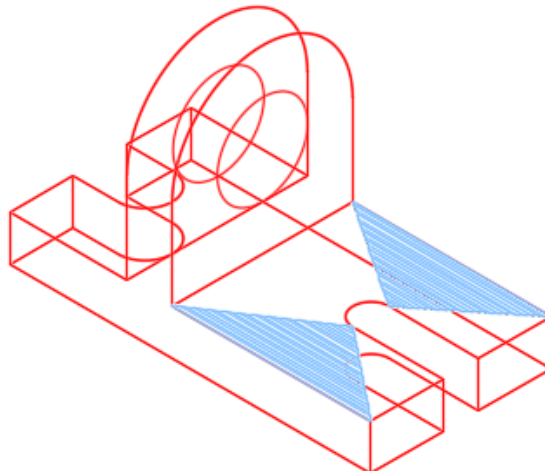

Figure Step 14
Step 14 On layer: Surface 1, use the RULESURF command to draw surfaces as shown in the figure. Change the layer of the surfaces to layer: Surface off. (Figure Step 14)